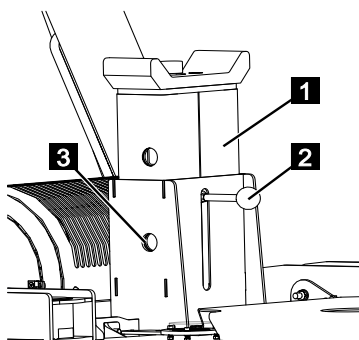

Fig. 117
6. Pull the telescopic boom support (Fig.117/1) upwards by the handle (Fig.117/2) until the desired holes (Fig.117/3) align.